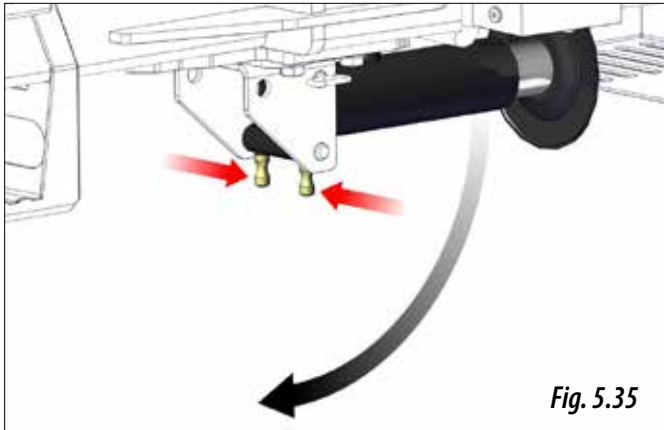

Fig. 5.35
- 1- Hold the support foot and release the locks to unlock the position of the foot (Fig. 5.35).